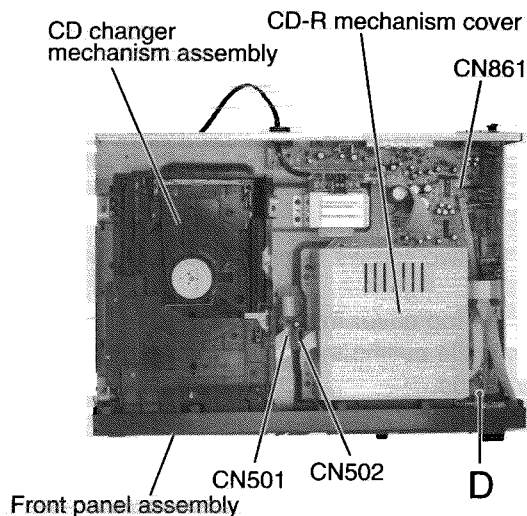

Fig.5
■ Removing the front panel assembly (See Fig.5 to 9)